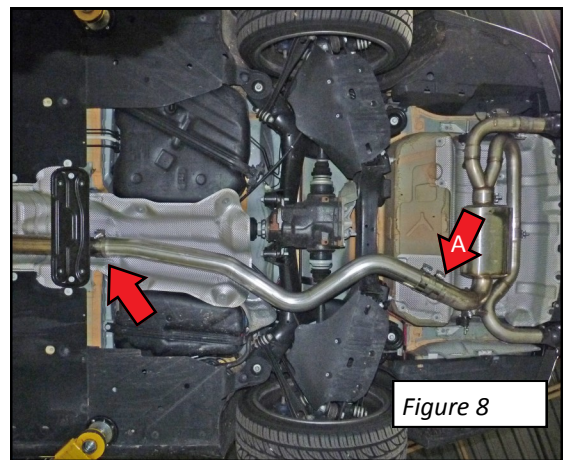

Figure 8
Use the supplied coupler (KG) with (2) 3.0" Accu-Seal clamps, at **Arrow A** in **Figure 8**, to attach the AWE Tuning Performance Mid Pipe to the AWE Tuning Touring Edition Exhaust.